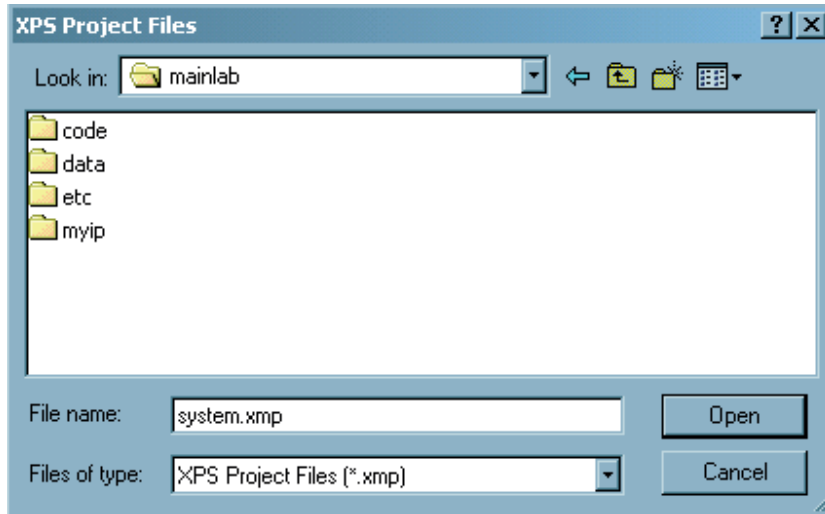

Figure 3-3. XPS Project Files Directory.
- 3 Use the Project File Browse button to browse to the C:\training\microblaze\labs\mainlab folder. Click **Open** to create the system.xmp file, as shown in figure 3-3